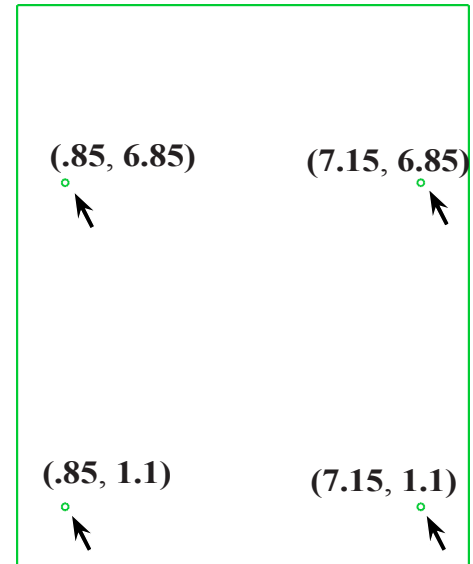

Fig. 4
Step 3. Press **spacebar** to activate AutoCursor **Fast Point**  and key-in coordinates shown below into the Fast Point. Press **ENTER** after keying-in coordinate. Continue and key-in each set of coordinates, **Fig. 4**.